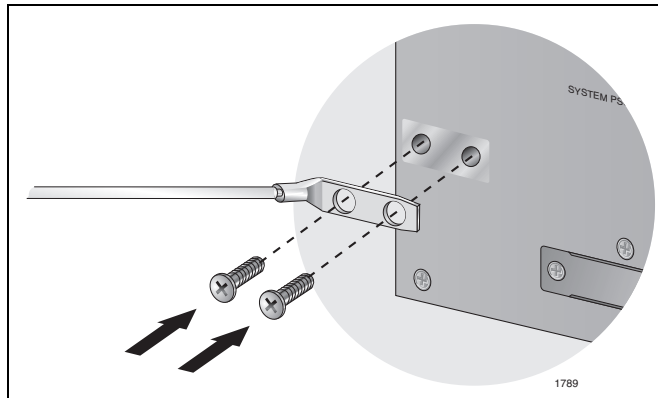

Figure 31. Installing the Ground Lug and Wire
5. Install the ground lug as displayed in Figure 31.